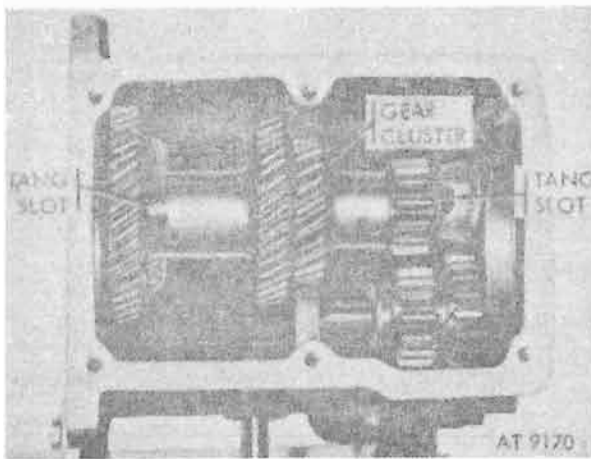
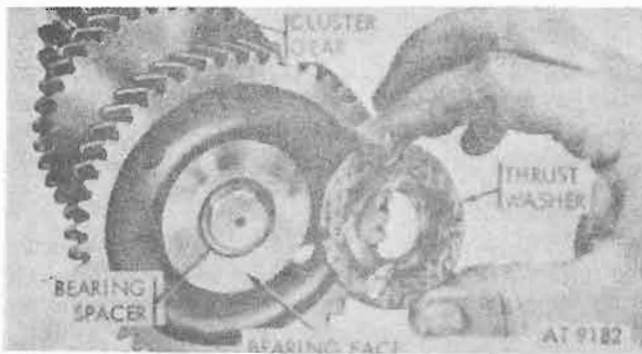

Figure 8-37. Countershaft gear cluster.
Figure 8-49. Installing bearing spacers and thrust washer.
j. Remove countershaft gear cluster by lifting straight up. Note position of the two thrust washer tangs (fig. 8-37) for reference during assembly.
c. Coat bearing spacers with GAA grease and install in both ends of shaft bore (fig. 8-49).
d. Coat the two thrust washers with GAA grease. Install one washer on each end of shaft and gear at bearing face (fig. 8-49). Refer to figures 8-37 and 8-50 for correct placement of thrust washers.